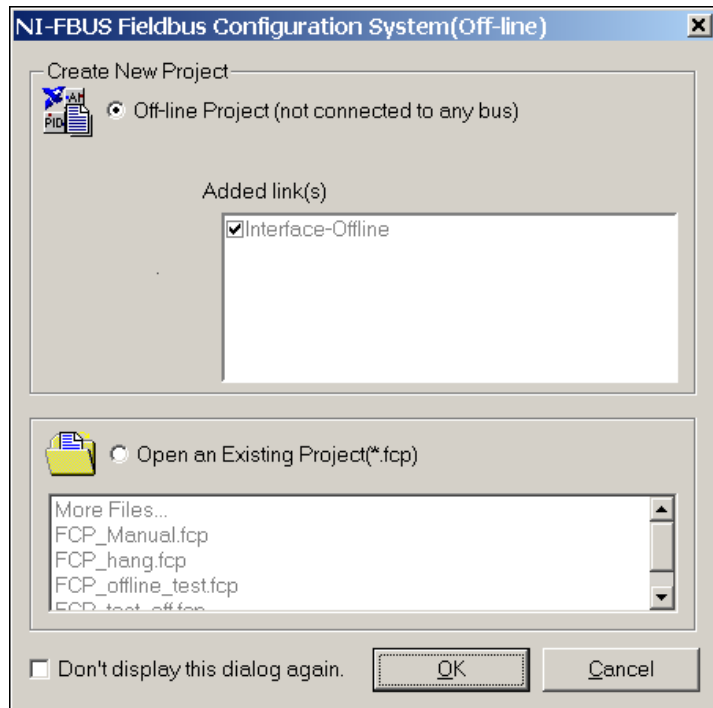

Figure 3-4. Project Type Selection
3. Select the type of project to create as shown in Figure 3-4. Usually, this type is offline.